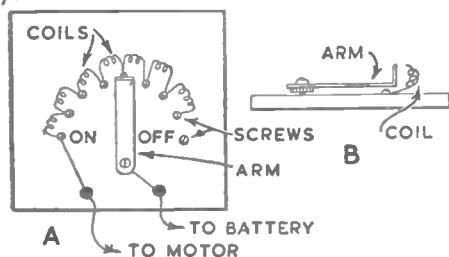

Fig. 1—Lay-out of circuit and side view
The controller is built on a wooden base about 2½ ins. by 2½ ins. by ¼ in. thick. On this, mark off a semicircle with a radius of about 1 in. and divide this into nine or ten equal sectors. At each point screw in a small brass round-headed wood screw, as shown (A) in Fig. 1. Do not drive these screws in completely yet.
Two small terminals are mounted on the base. The loop of wire mentioned goes to one. The second is connected to one screw in the semicircle, marked 'ON' in Fig. 1.
join the two ends thus formed to the terminals (see Fig. 1). When the switch is in the 'OFF' position no current will flow. The current will increase as the arm is moved round, reaching maximum at the 'ON' position, with no resistance in circuit.